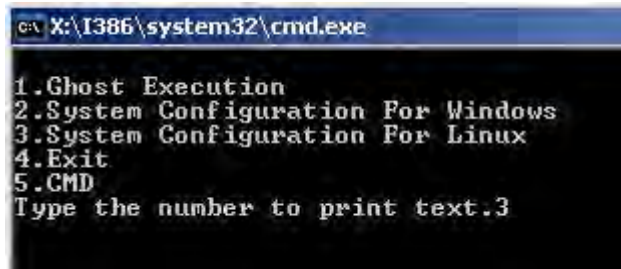

Figure B-23: System Configuration for Linux
Step 4: Build-up recovery partition. Press any key to boot from the recovery CD. It will take a while to launch the recovery tool. Please be patient. When the recovery tool setup menu appears, type <3> and press <Enter> (**Figure B-23**). The Symantec Ghost window appears and starts configuring the system to build-up a